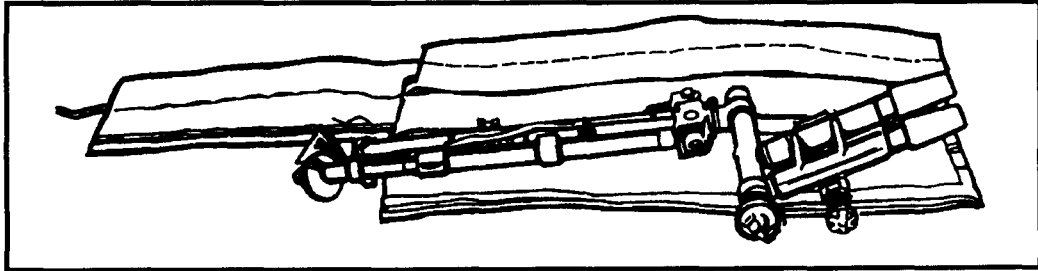
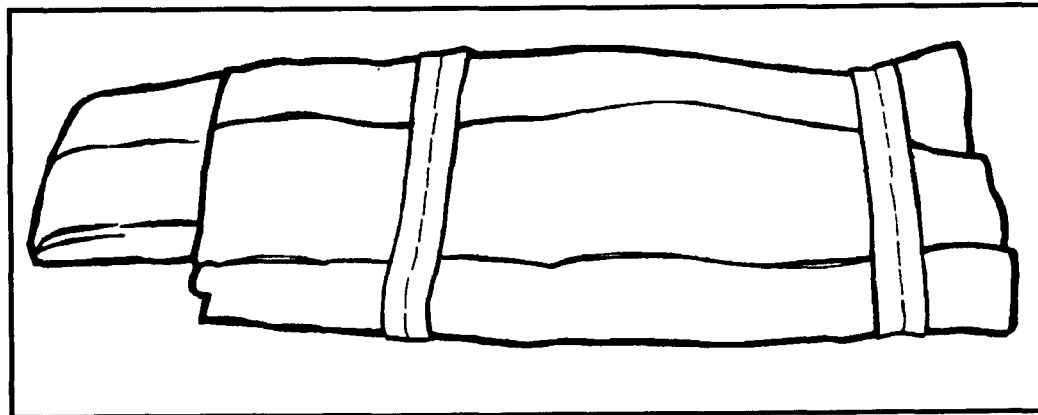

Figure 12-21. Bipod with case.
Figure 12-23. Assistant gunner's case completed for jumping.
b. **Assistant Gunner.** Place the bipod assembly inside the case (Figures 12-21 and 12-22), ensuring that the traversing mechanism is in the middle of the case. Secure the closing flap. Tandem-rig the case and pack for lowering (Figure 12-23 and paragraph 12-13).